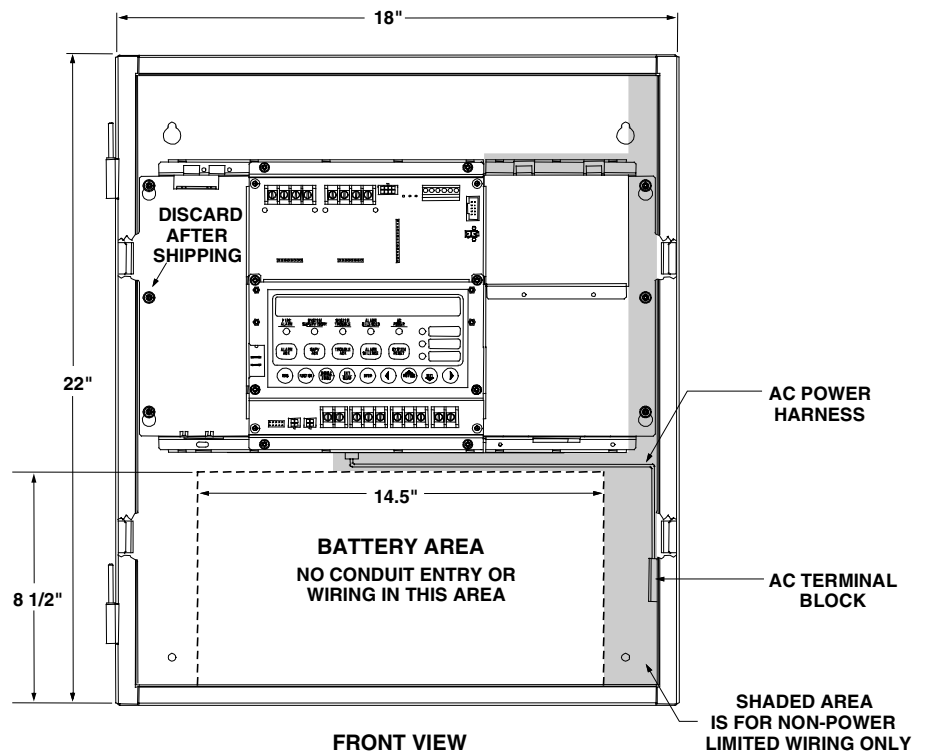

Figure 3-1. Location of Non-Power Limited Wiring Area
- Route AC Power, battery wiring, city circuit connections, and non-Power Limited Relay wiring only through the shaded areas shown in Figure 3-1. Do not route Power Limited wiring through the shaded areas shown in the figure.
When power for the AUX relay contacts is from TB5 (AUX Power), 4010-9813, or 4010-9814 expansion power supplies, the circuit is power-limited. When power for the AUX relay contacts IS NOT from the sources listed above, use an in-line fuse (Part No. 208-165). If power source is non-power-limited, wiring must be routed through the non-power-limited spaces shown in Figure 3-1 and “power-limited” markings must be obliterated.